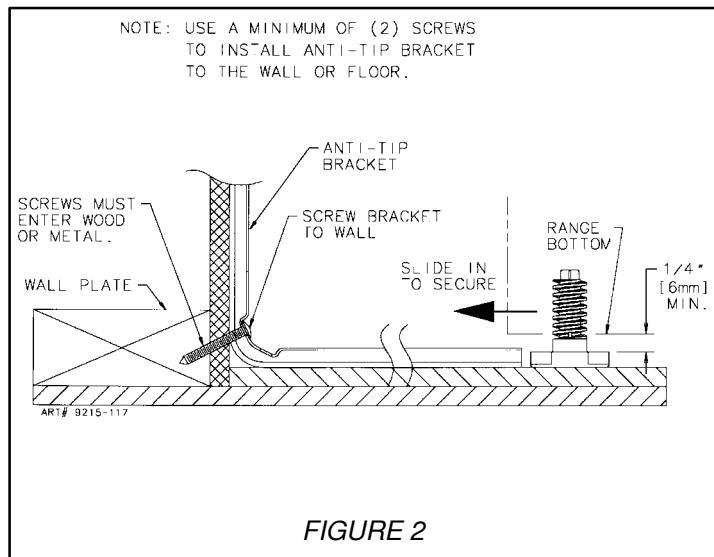

FIGURE 2
1/8" pilot hole in the center of each hole as shown in figure 2. (A nail or awl may be used if a drill is not available). Secure the ANTI-TIP bracket to the wall with the two screws provided as shown in figure 2. Proceed to STEP 3.
- A. Align the range to its designated location and slide it back into position. Make sure that the leveling foot is fully inserted into and secured by the ANTI-TIP bracket. Note: A minimum clearance of 1/4" is required between the range and the leveling foot that will engage the ANTI-TIP bracket, see figure 2.